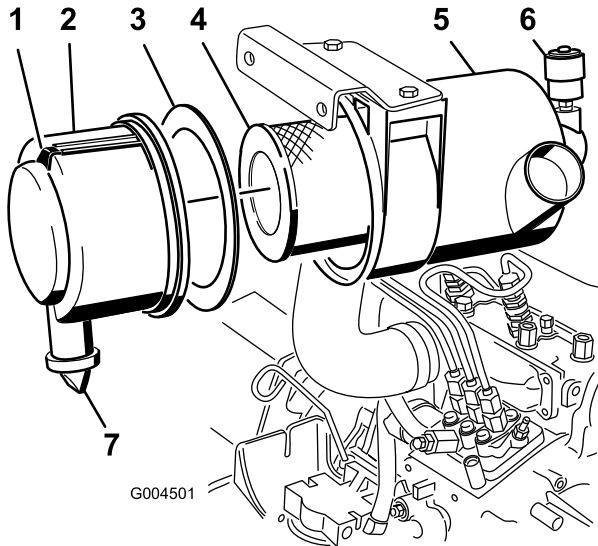

Figure 44
- Service the air cleaner filter when the air cleaner indicator (Figure 44) shows red or every 400 hours (more frequently in extremely dusty or dirty conditions). Do not over service the air filter.
1. Pull the latch outward and rotate the air cleaner cover counter-clockwise (Figure 44).
2. Remove the cover from the air cleaner body (Figure 44).
4. Remove and replace the primary filter (Figure 44).
6. Ensure that the foam gasket is in place in the cover and that it is not torn or damaged (Figure 44). If it is damaged, replace it.
- A. Remove the rubber outlet valve from the cover (Figure 44).
10. Reset the indicator (Figure 44) if showing red.